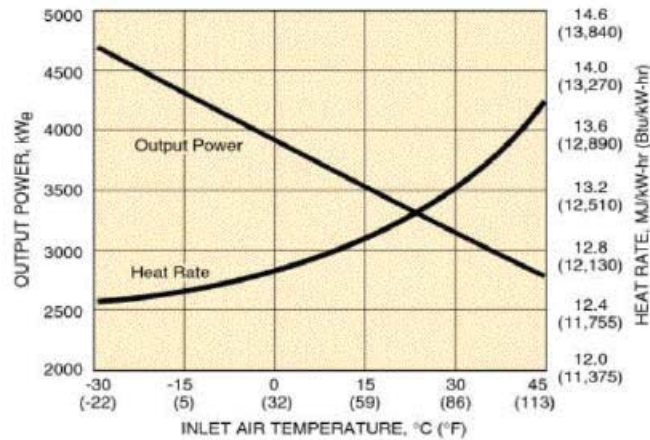

Figure A1-2 An Example of the Effect of Ambient Air Temperature on Power Output and Heat Rate
- **Figure A1-2** shows the effects of **air inlet temperature** on gas turbine **power output and heat rate**.